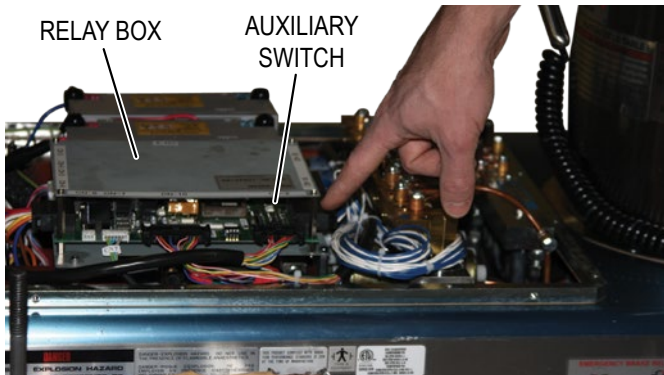

Figure 4. Auxiliary Switch Connector
7. Remove the four (4) screws securing the service access cover to the table base. Set screws aside for later use.
9. Carefully remove the service access cover without disconnecting the auxiliary switch connector from the relay box (Figure 4).
On 3503, 6302, and 6702 models use care not to disconnect the auxiliary switch connector from the relay box (See Figure 4).